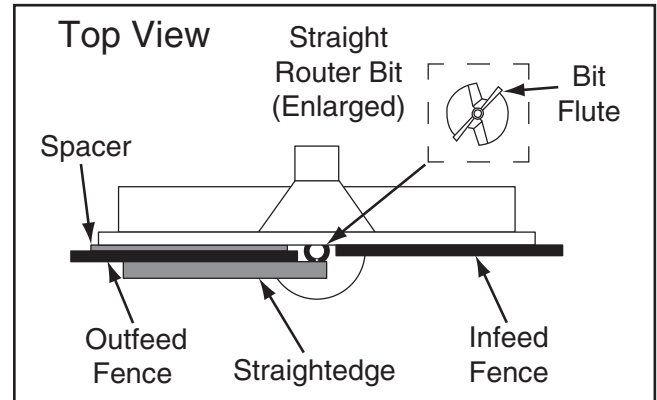

Figure 51. Example of fence set up for edge jointing.
6. Place straightedge against outfeed fence, then adjust fence base so straightedge is also against bit flute (see **Figure 51**).